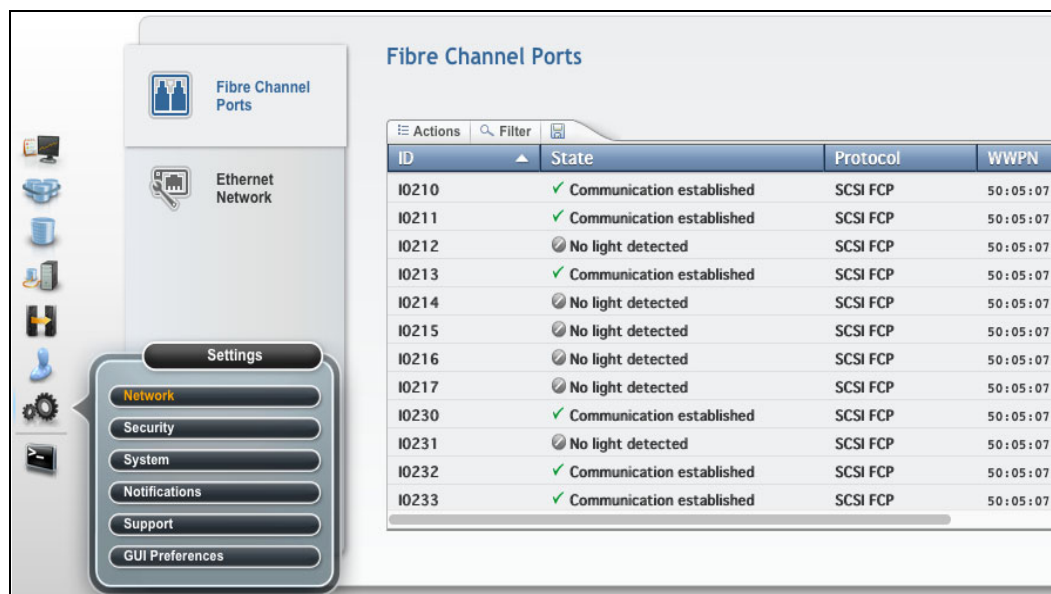

Figure 11-62 Modify Fibre Channel Port Protocols window
1. From the Storage Management GUI left menu, click the **Settings** menu and select **Modify Fibre Channel Port Protocols** to open the Fibre Channel Ports window (Figure 11-62).